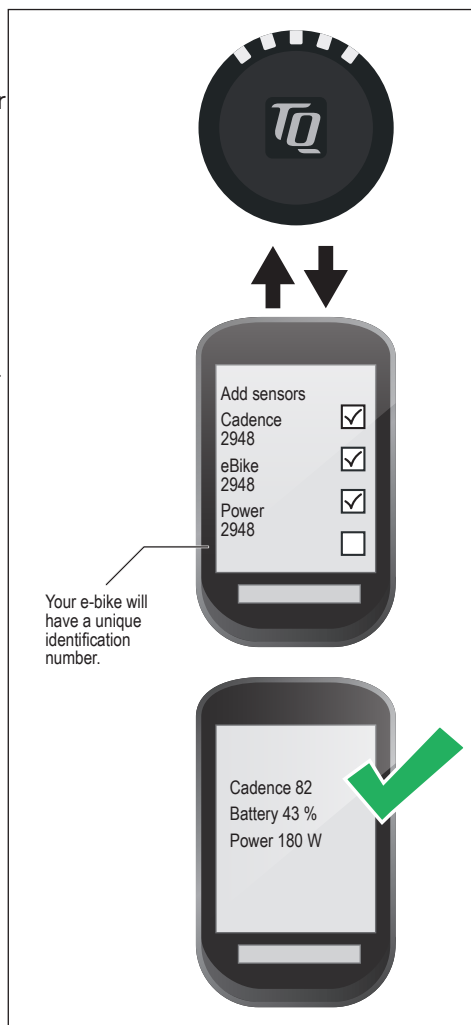

Fig. 6: Connection e-bike to bicycle computer
- Select at least one of the three shown sensors (see Fig. 6).